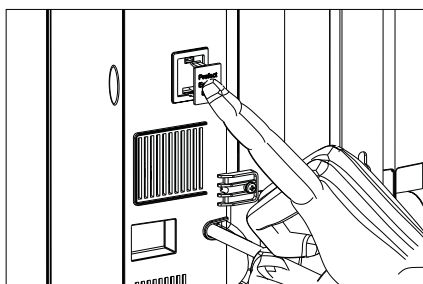

FIG:6
The heater will not function until the EnergyLock key (see Fig 6) has been installed into the heater. The EnergyLock key is supplied with the control thermostat.
- Holding the key with the tooth at the top, note the T shape of the tooth. On the bottom right hand side of the heater is a plastic cover, on this cover you will see a corresponding T slot. Locate the key into the T slot on the heater (see fig 6).